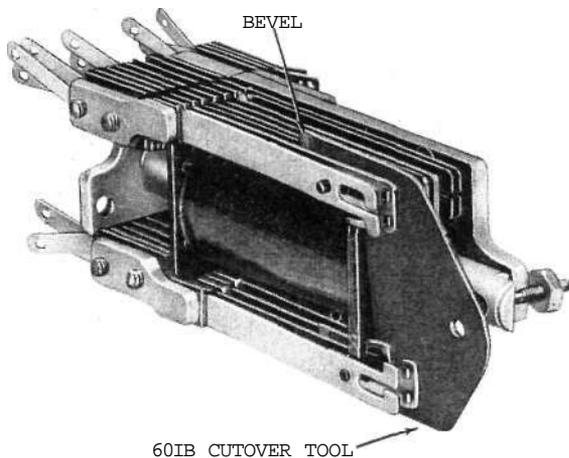

Fig. 38—Blocking U676 and U680 Relays for Cutover Purposes
**4.04 U676 and U680 Relays:** Fig. 38—Using the 601B Cutover tool, block open the contacts controlling the circuit through the line relay. With the beveled side of the legs of the tool facing away from the armature, insert the tool as far as it will go between the stud, controlling the operation of the spring to be blocked open and the adjacent contact or buffer spring. On U676 relays, insert the tool between contact springs 2 and 3 (top) and contact spring 2 and buffer spring (bottom). On U680 relays, insert the tool between contact springs 2 and 3 (top) and contact spring 4 and buffer spring (bottom).